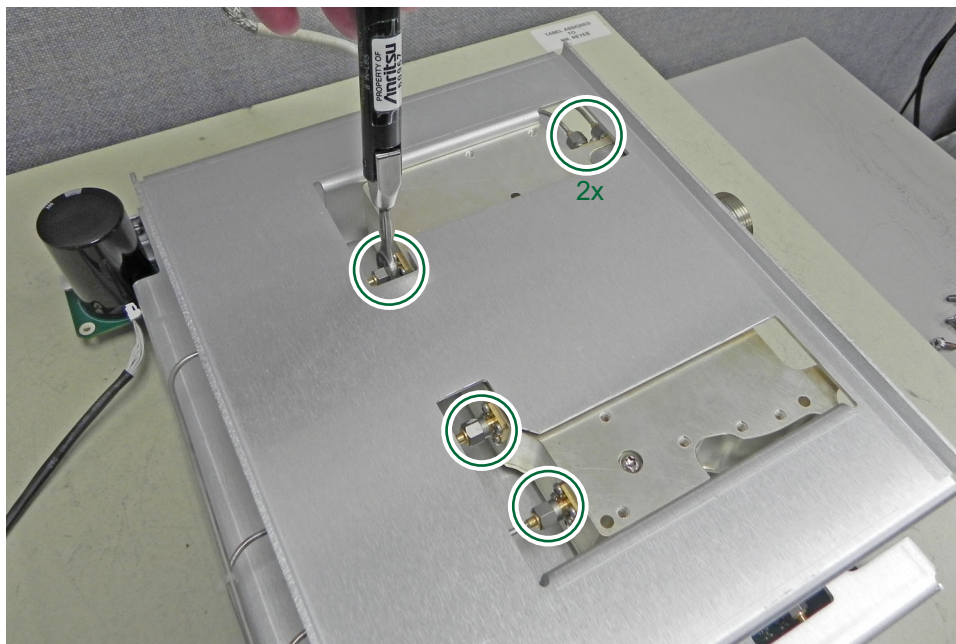

Figure 5-35. Disconnect Semi-rigid RF Cables
14. If replacing the filter, then flip the assembly over so that it is resting on the Main PCB board shield. Carefully disconnect the 5 semi-rigid RF cables that are connected to the filter assembly by using the Anritsu 5/16 in torque wrench (p/n 01-201). Figure 5-35 illustrates the 5 cables.